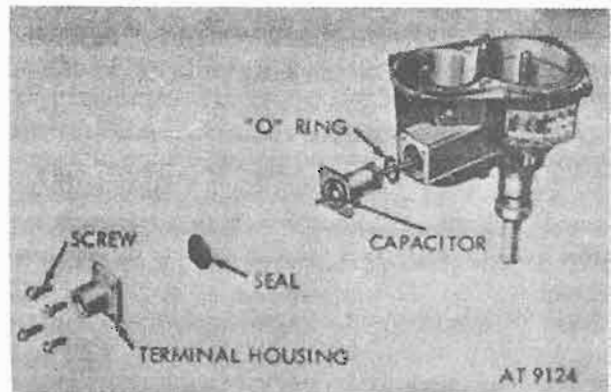

Figure 6-6. Terminal housing removal.
- a. Remove four primary connector attaching screws and pull off terminal housing (fig. 6-6). Remove filter capacitor assembly with attached resistor lead. Cut lead to remove capacitor and discard. Retain capacitor mounting hardware and packings (fig. 6-6).
(1) Clean all parts of plate except condenser, leads, and contacts in mineral spirits paint thinner or drycleaning solvent.
(2) Rub contacts with linen tape, dampened with carbon tetrachloride. Dry with clean tape to remove any residue.
(3) Test condenser for capacity and grounding on condenser tester. (Use reliable test equipment and follow the manufacturer's instructions.) Discard condenser if grounded, leaky, or if it is not within limits. Discard if lead is chafed, broken, or damaged.
(4) Check primary terminal on breaker plate for grounding using test probes. Discard plate if terminal is grounded. Inspect for stripped threads and damaged or worn lever pivot. Discard plate if these conditions are found.
(5) Inspect contacts. Discard if contacts are rough, pitted or burned. (A grayish color is normal after use.)
(6) Install breaker points on plate (6.2) and check fit of movable breaker point on pivot. It must turn easily, without binding or excessive looseness. Discard plate if pivot is worn or loose or if not perpendicular to plate.
(7) Install condenser on breaker plate and connect cable to primary terminal. Breaker point spring must be installed on the inner side of the terminal.
(8) Place one drop of oil (PL) on breaker point pivot. Operate lever once or twice and wipe excess oil from top end of pivot.
e. Primary Connector (fig. 6-6).
(1) Clean all parts of unit with cloth dampened in mineral spirits paint thinner or drycleaning solvent.
(2) Inspect capacitor for damaged or corroded connector pin, lead, and terminal. Check for groundings using test probes, by testing between terminal pin and connector body. Discard capacitor if grounded.
e. Insert new filter capacitor assembly into base. Existing packing should be placed on capacitor prior to insertion. Use existing hardware to retain capacitor (fig. 6-6).